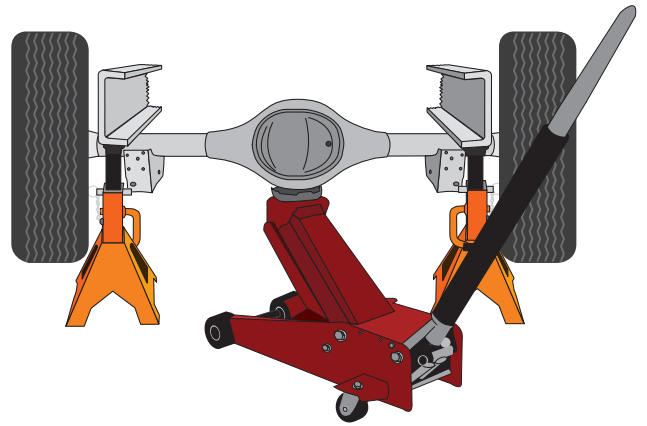

Fig. 2
1. Lift the vehicle and support the frame with safety stands. Drop the axle down low enough to later set the air spring assemblies into position between frame and leaf spring (Fig. 2). Remove the rear wheels.